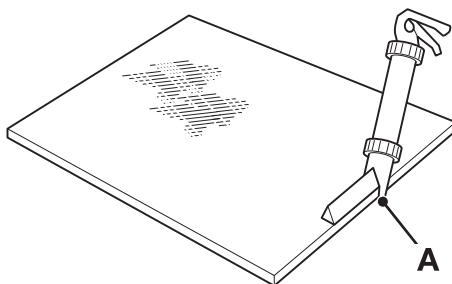

Fig 15.
- 6 Apply the pre-heated adhesive to the glass (do not start in a corner). Keep the nozzle guide **15-A** against the edge of the glass and make sure that the adhesive forms a continuous 'pyramid' shape. ⇒ Fig 15. \(□ 1-11\)